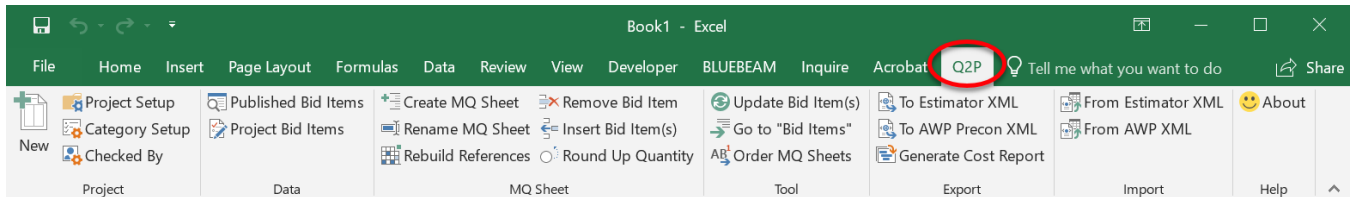

Figure 2.1 Q2P-specific commands found under the Q2P tab.
1. Open a new Excel workbook and navigate to the Q2P ribbon tab (Figure 2.1). This tab houses all of Q2P's specific commands and functionality.